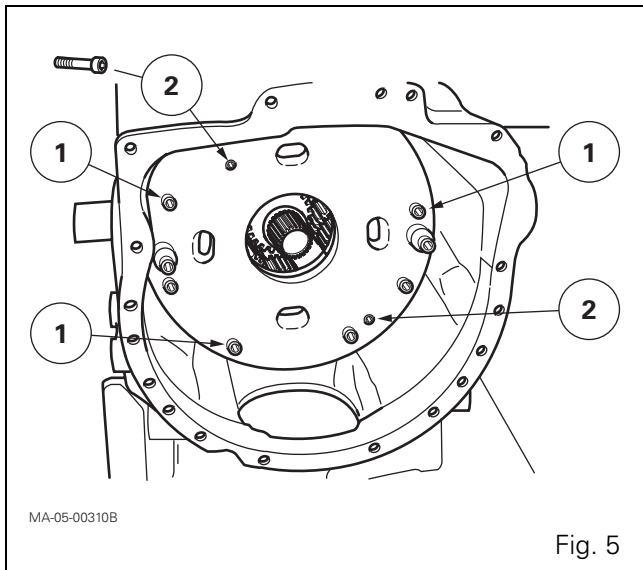

Fig. 5
NOTE : The sling hides two diametrically opposed screws (1) on the input unit (Fig. 5). Before fitting the tool on the unit, remove these screws.
10. Remove the remaining screws (1) securing the unit to the gearbox (Fig. 5) without touching screws (2) (8 mm Allen key) (Fig. 5).
23. On the input unit, tighten screws (1) (Fig. 5) to a torque of 40 - 56 Nm.